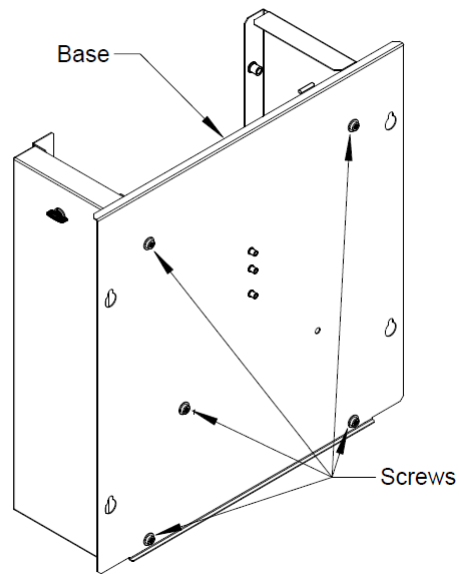

Figure A2
- Remove the Base from the right hand side of the housing.(5 screws) - Figure A2